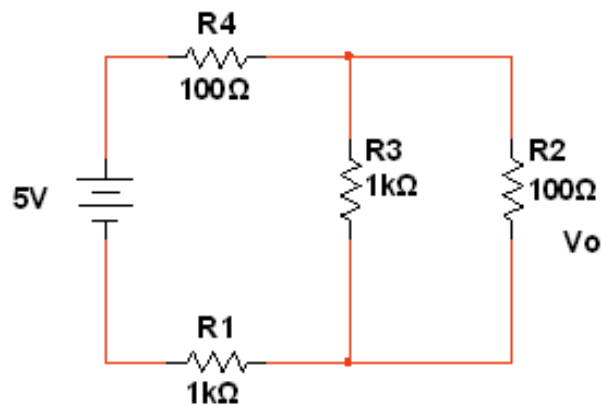

Figure 1: Circuit to be connected on the bread board
9. Use more resistors and connect the circuit as shown in Figure 1